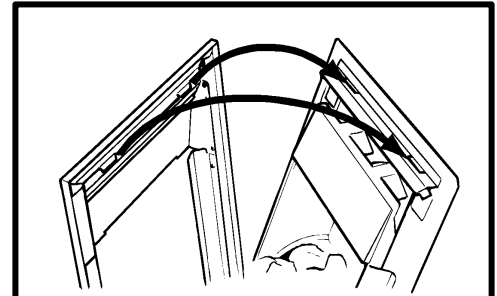

Fig. 22 Outer surround top location - Monaco
9.1.1 Pick up the outer surround. Locate the two lugs at the top of the front surround in the slots in the upper case front support (See figure 22). Swing the bottom of the surround sides back against the convection box and lower the surround so that the lugs are fully seated in the slots in the convection box hood.